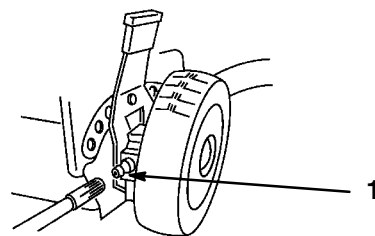

Figure 35
1. Wipe the grease fittings on the rear wheel height adjustment levers (Fig. 35) with a clean rag.